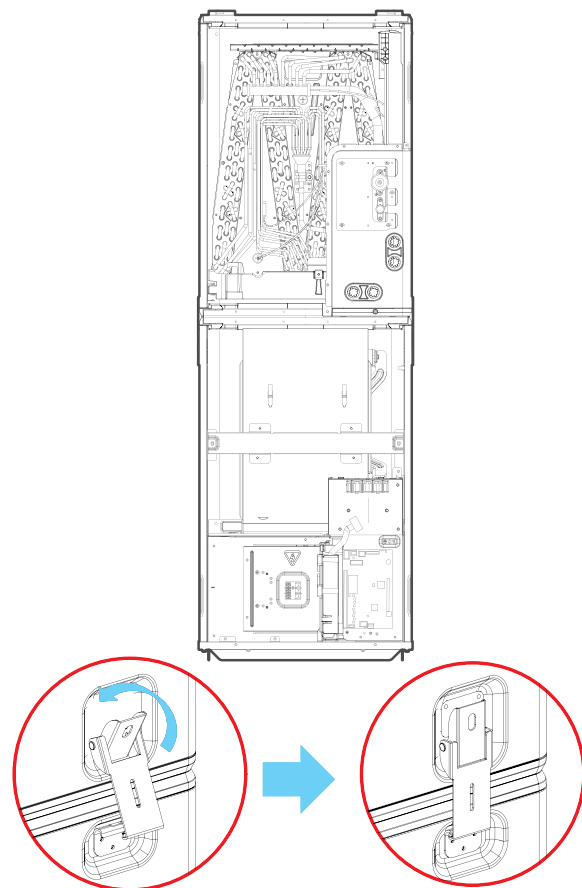

Fig. 1-9: Turn Fan Module 180 degrees
8. Turn the fan module 180 degrees and put it under the coil module. Re-lock the 4 latches. See Fig. 1-9.